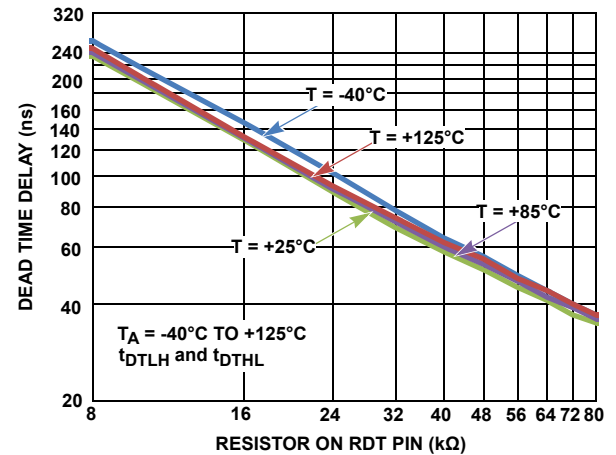

FIGURE 9. DEAD TIME DELAY vs RDT RESISTOR
1. The dead time of the HO and LO signal is set to 35ns with an 80k Ω resistor from the RDT pin to GND. To change the dead time, replace the resistor at R20 with the value corresponding to the desired dead time. See Figure 9.
The ISL78420 features a dead time control circuit for programming the delay between the falling edge of HO to rising edge of LO and between the falling edge of LO to rising edge of HO. A single resistor from the RDT pin to GND adjusts the dead time from 35ns (80k Ω) to 220ns (8k Ω). The ISL78420EVAL1Z contains a 80k Ω resistor at R20 which sets the dead time to 35ns. Refer to Figure 9 for selecting a resistor value for the desired dead time.